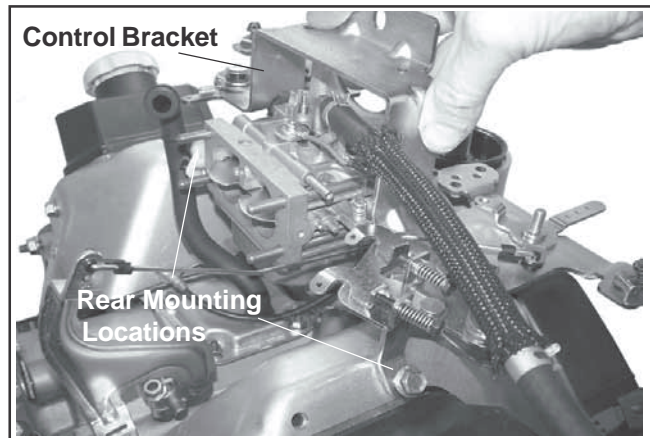

Figure 10-94. Installing Control Bracket.
1. Position the control bracket assembly onto the two intake manifold bosses. Align the rear supports with the top valley baffle/cylinder head mounting screw locations and install the two screws, but do not fully tighten. See Figure 10-94.